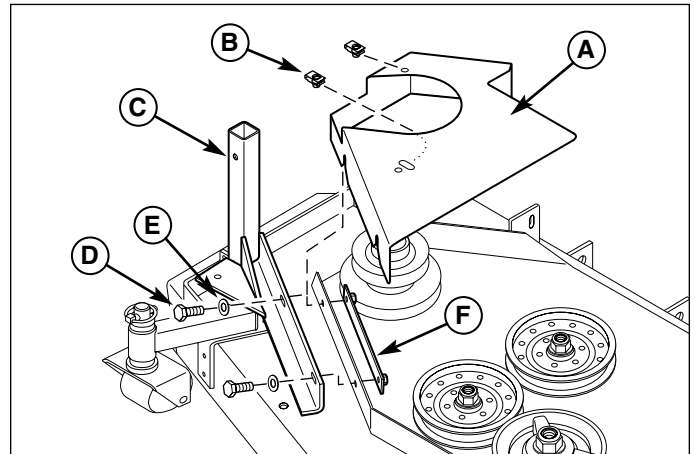

Figure 16. Install Blower Mount Bar & Belt Shield
1. Loosely install the 3/8-16 x 1-1/4" bolts (D, Figure 16), 3/8" washers (E), blower mount bar (C), belt guard (A) and nut bar (F) onto the mower deck. These fasteners will be tightened in a later step.
2. Install the 5/16" body clips (B) on the belt guard. The front body clip is installed from underneath the guard.